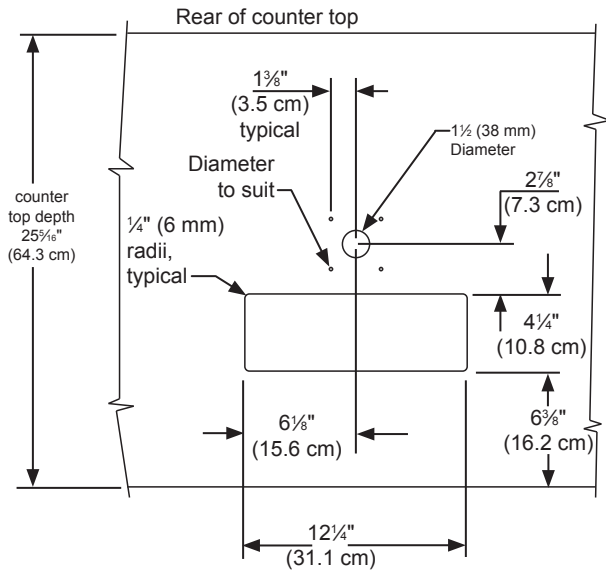

Figure 31
The cutout dimensions shown in Figure 31 are based on a 255/16" (64.3 cm) deep counter top. Your counter top may be different than this and require other front to back dimensioning. Refer to the product dimensions on pages 6 and 7 when determining the required dimensions.
- If you are installing your keg refrigerator under a counter you will need to drill 5 holes in the counter top to mount the tower. The first hole is a 11/2" diameter hole located at the center of the tower for the beer line, locate approximately 131/2" (34.3 cm) from the front edge of the counter top (based on a counter top depth of 255/16"). Next drill the 4 tower mounting holes per the dimensions in Figure 31. The hole diameter is dependent on the counter top material and if screw anchors are required. The screws supplied are in the literature pack and are a #10 x 1" type AB stainless steel screw. Mark and cut the rectangular cutout for the drain sump. After the holes are drilled and the keg refrigerator is in place under the counter top feed the beer line through the tower gasket, the 11/2" hole in the counter top and the hole in the top of the keg refrigerator. Mount the tower to the counter top with the 4 screws provided. Place the counter top drain sump, from the literature pack, in the rectangular hole with the radius cutout to the rear around the tower and place the grate in the sump.